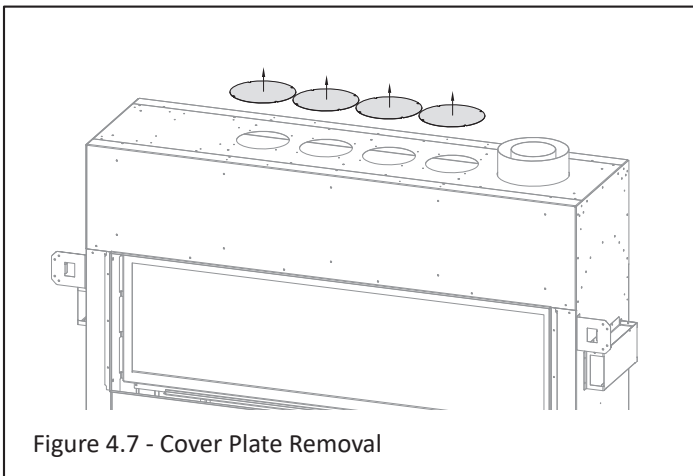
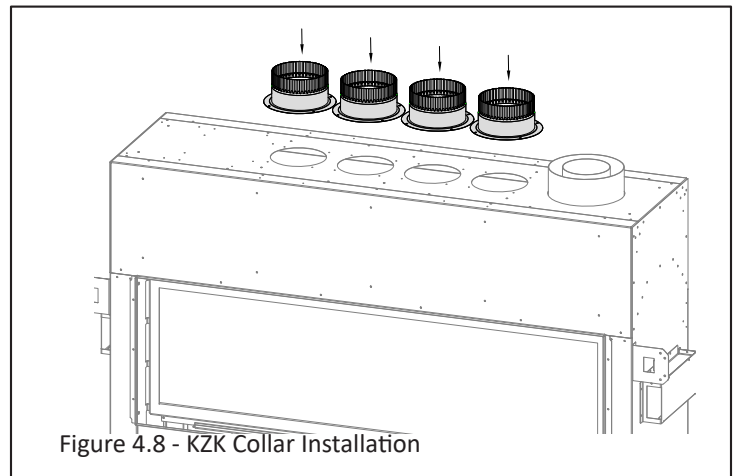

Figure 4.7 - Cover Plate Removal
Figure 4.8 - KZK Collar Installation
1. Remove (4) cover plates on top of the appliance (4 screws each). See Figure 4.7. Install the KZK collars that were provided with KZK-1510A. See Figure 4.8